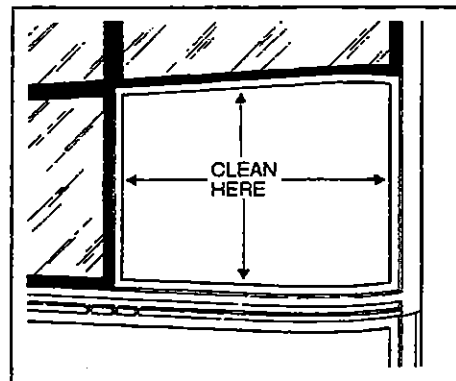

Figure 42
1. Clean the windshield opening sealing surfaces with isopropyl alcohol and let dry 1 to 2 minutes. See figure 42.